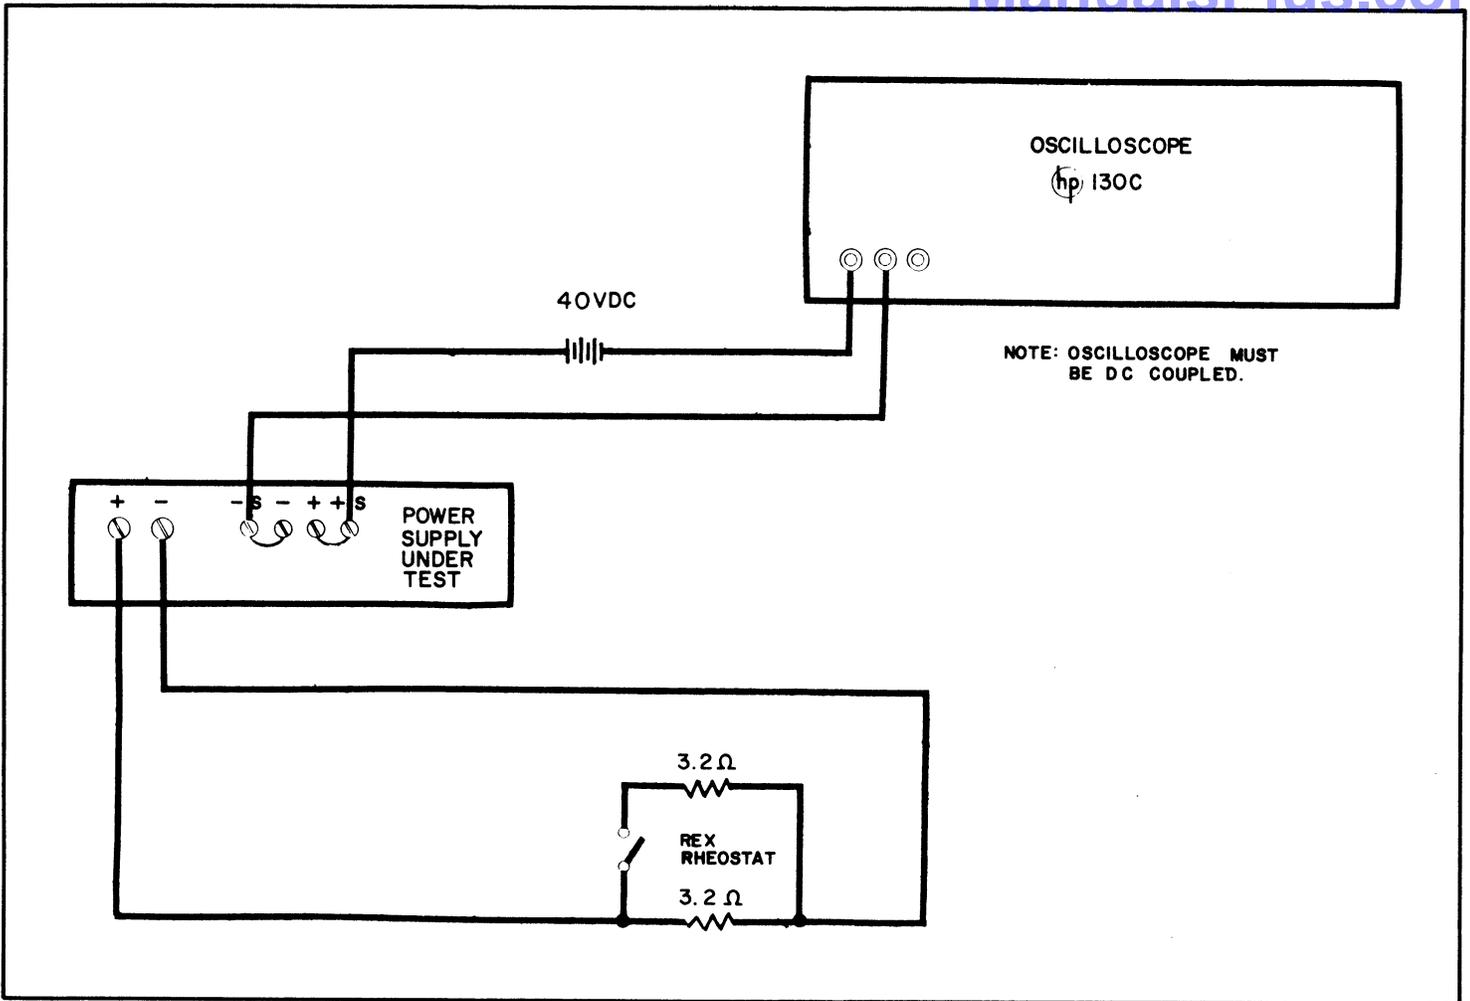

Figure 5-4. Transient Recovery Time, Test Setup
- Connect test setup shown in Figure 5-4.